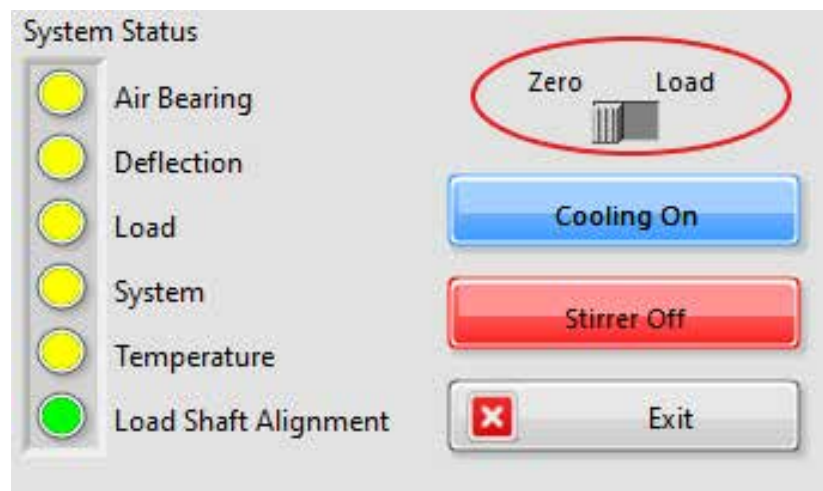

Figure E.15 - Load Control Switch in the Zero Position
2. The load control switch is located on the Run Test main screen, to the right of the BBR3's system status lights. Using the touchscreen, move the switch to the zero position (Figure E.15).